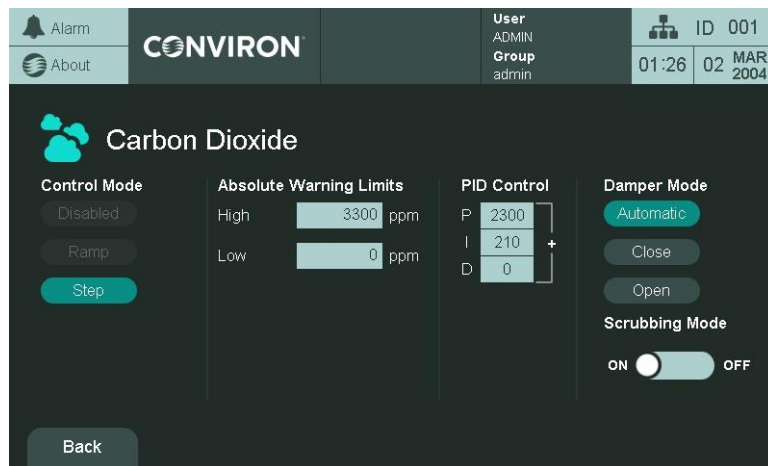

Figure 2-8 Carbon Dioxide Screen
3. To access the Carbon Dioxide parameters, tap the **Carbon Dioxide** icon. The **Carbon Dioxide** screen appears (Figure 2-8).